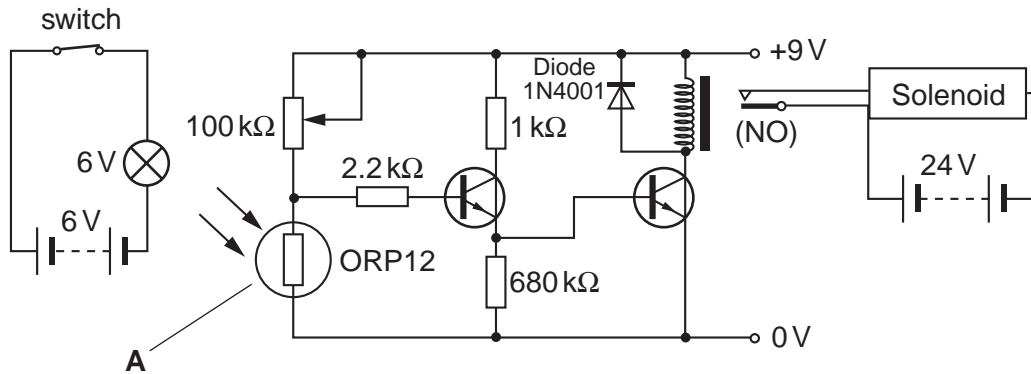

Fig. 6
- (ii) The solenoid is to be controlled by a light-sensitive circuit that will trigger the solenoid when a light beam is broken. Fig. 6 shows a circuit diagram for this system.